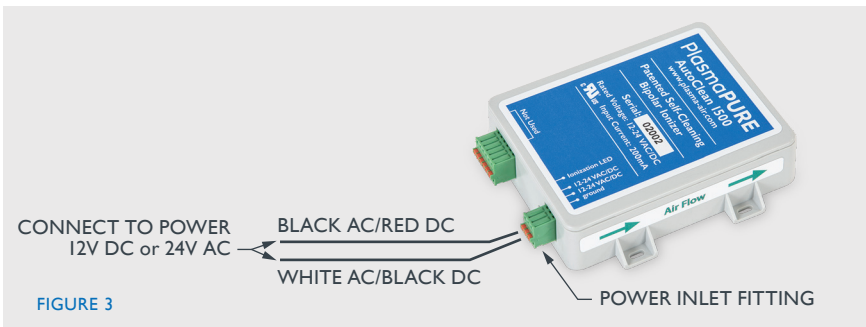

FIGURE 3
2. Connect power to ionizer using either 12V DC or 24V AC. See Figure 3.